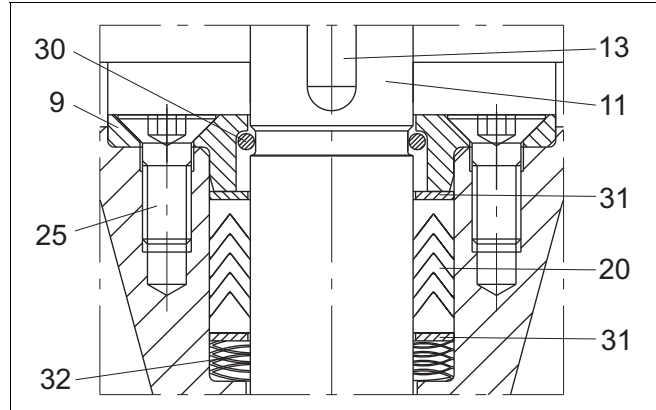

Fig. 17 Gland packing
In gland packing, V-ring set (20), tightness is ensured by pressure caused by the wave spring (32). See Fig. 17.